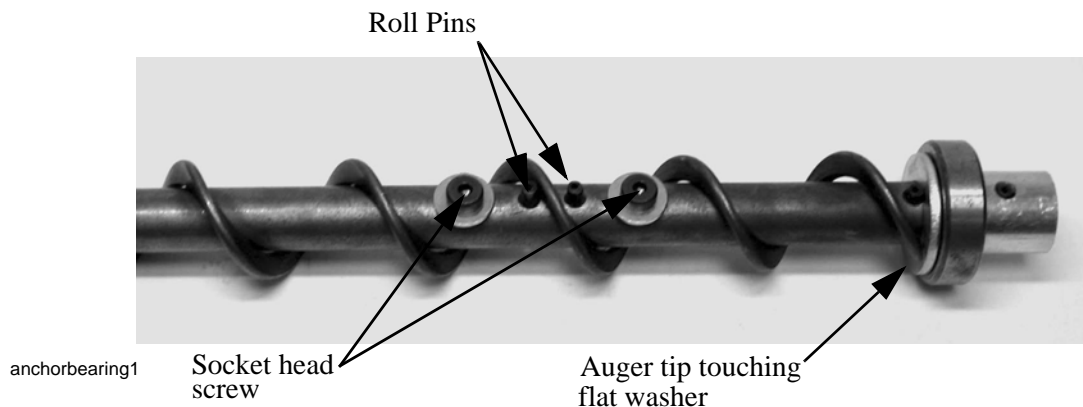

Figure 40. Anchor Bearing
15. Insert the Anchor Assembly into the auger until it touches the washer at the back of the anchor. Tighten the setscrews in the center of the anchor until they touch the auger, then tighten a maximum of 1/2 turn. See **Figure 40**. Do Not Overtighten Set Screws.